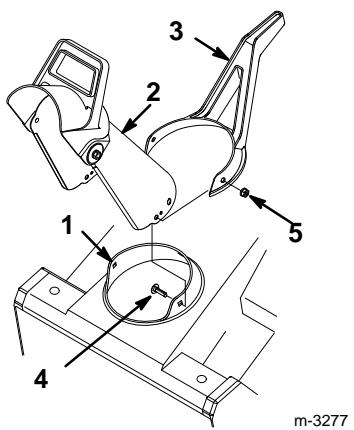

Figure 2
1. Place the chute handle over the chute ring (Fig. 2).
2. Insert the discharge chute between the chute ring and the chute handle. (Fig. 2).